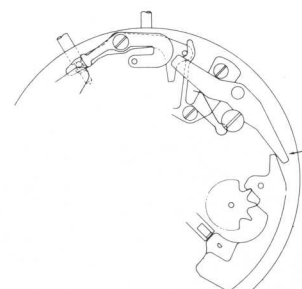

Fig. 17
**Stopping the bell (Fig. 17)**